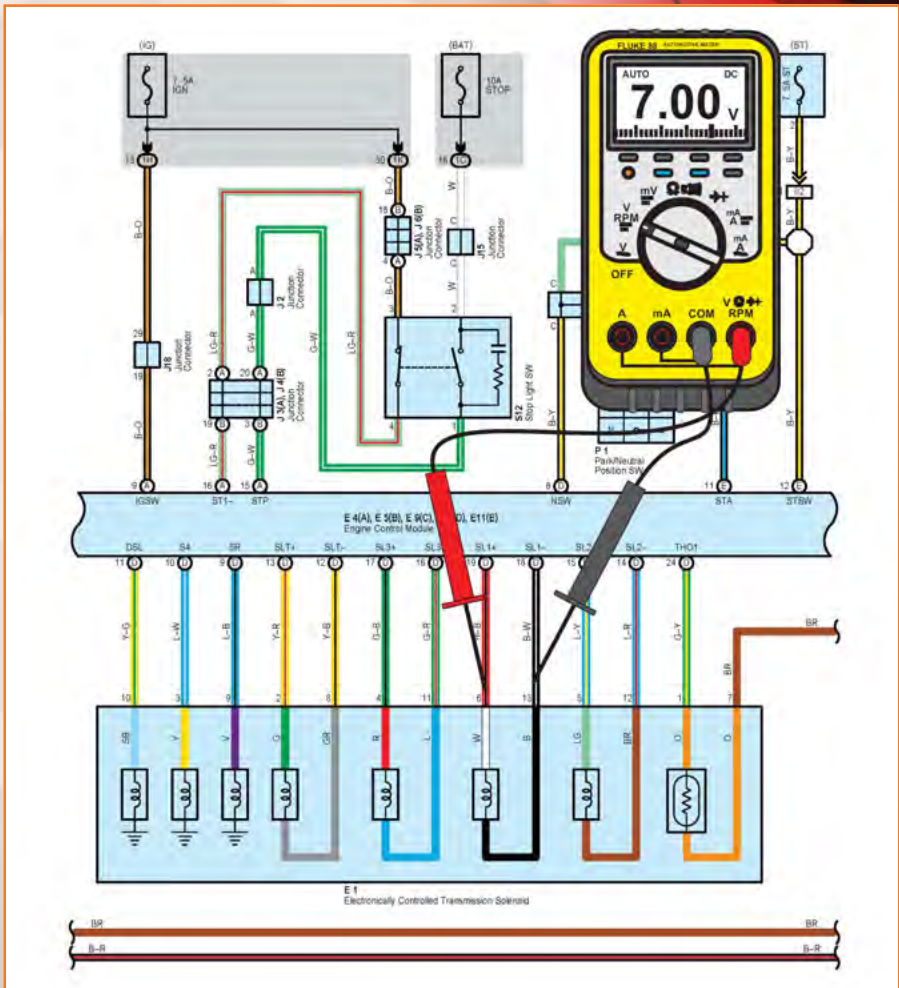

Figure 3
- Connect your positive lead to terminal 6 and the negative lead to terminal 13 (figure 3).